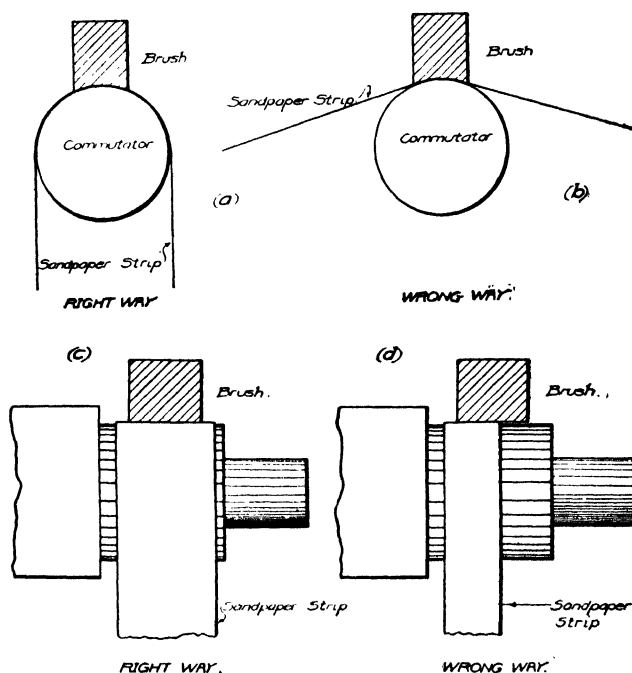
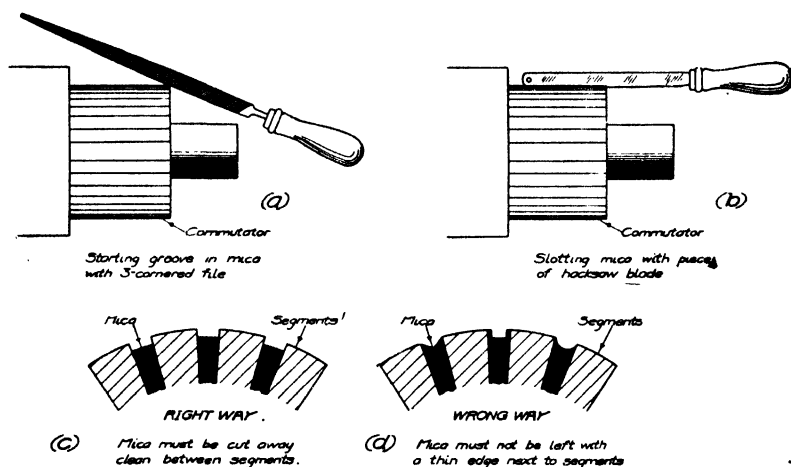

Fig. 72. Method of Sanding-In Brushes
Fig. 73. Method of Undercutting Mica Insulation on Commutator
*Care of Brushes.* In time, the brushes may need dressing and the armature brightening up. Fine sandpaper can be used for this purpose, as shown in Fig. 72. Emery cloth should never be used on the brushes or the armature of a generator, as emery is a conductor of electricity, and if it becomes embedded between the commutator segments, it will cause a short-circuit in the armature. After long service, the mica installation between the commutator bars may need dressing down, and the method of doing this is shown in Fig. 73.